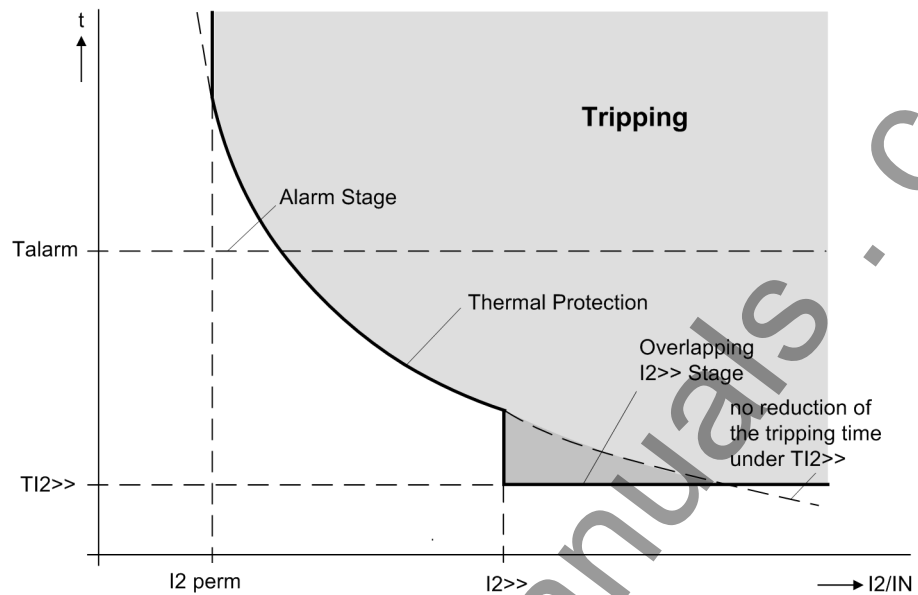

Figure 2-95 Resulting characteristic of the thermal asymmetrical load protection
As the thermal replica only works after exceeding the permissible continuous negative sequence current „I₂ adm“, this value is the lower limit for resulting tripping characteristic Fig. 2-95). The area of the thermal replica connects to it with increasing negative sequence current. High negative sequence currents can only be caused by a phase-to-phase short circuit, which must be covered in accordance with the grading coordination chart. The thermal characteristics are therefore cut off by the definite time I_{2>>}-stage (see above under „Definite time stage (DT)“). The trigger time of the thermal replica does not fall below the trigger time of the I_{2>>}-stage